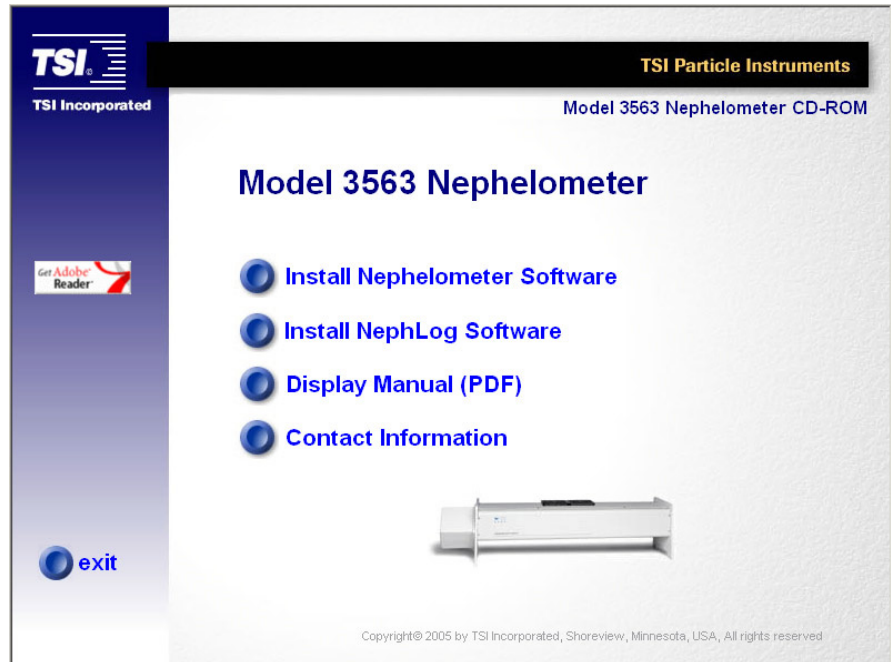

Figure 4-1
- a. If AutoPlay is enabled on your PC, the setup program begins automatically and the introduction screen is displayed on the Windows desktop (see Figure 4-1).